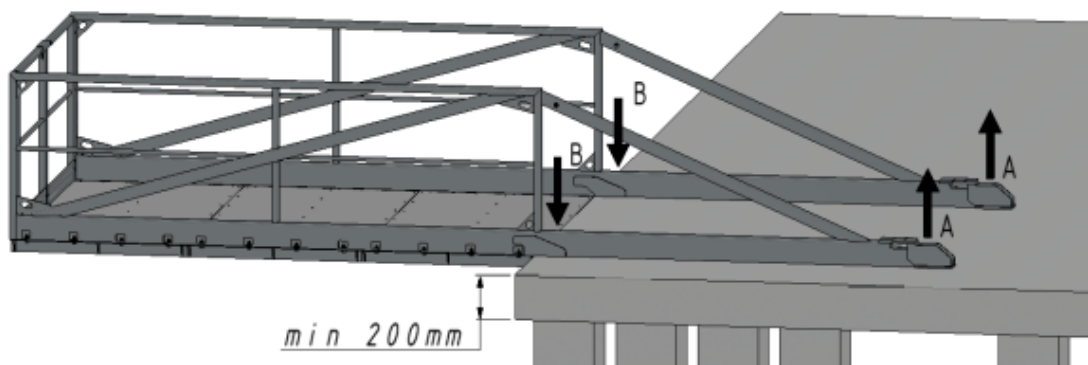

Fig. 3 Reactions during assembly by anchoring.
- Make sure that the structure element to which the ramp will be attached will withstand the load according to Figures 3 and 4.